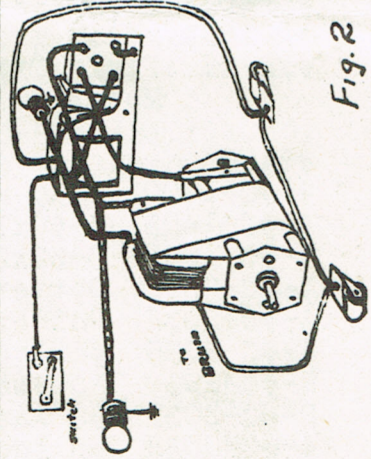

Fig. 5
- B. The nose bracket #623 and front headlight socket are then fastened to the body with the #C-1500 binder head screw as shown in Fig.5.
- E. This assembly is then locked in place with the nose casting which is fastened with two #1404 screws through the #623 bracket into the tapped holes in the back of the casting.Refer to Fig.5 when doing the above assembly.
- 8-Headlight lenses should now be placed in position. This is done from the inside. The rear head light assembly should now be installed as shown in Fig.5.